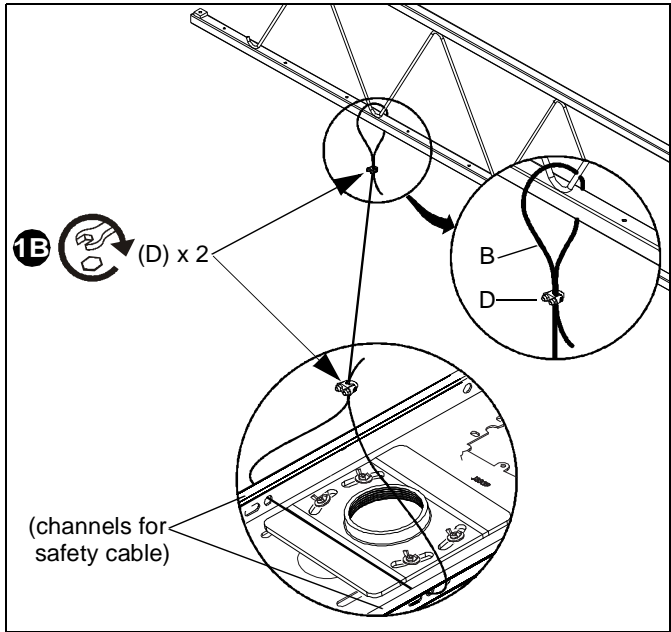
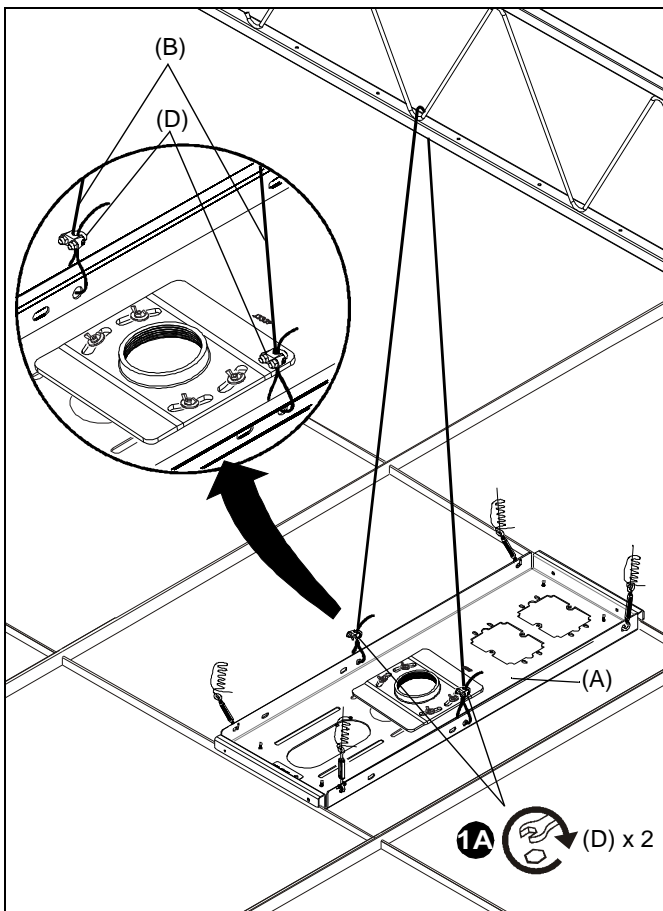

Figure 13
Figure 12
1. Attach safety cable (B) to steel truss ceiling structure at marked location.
- A. For ceiling structure less than 4' (1.2m) from ceiling tray (A) (See Figure 12):
- Attach one end of cable (B) to channel in tray (A). Secure with wire clamp (D).
- Route opposite end of cable (B) over truss, and attach to opposite channel in tray (A). Remove cable slack and secure with wire clamp (D).
- B. For ceiling structure from 4 - 7' (1.2 - 2.1m) from ceiling tray (A) (See Figure 13):
- Route one end of safety cable (B) over truss and secure to itself with wire clamp (D).
- Route opposite end of safety cable (B) through *both* channels in tray (A). Remove cable slack and secure to itself with wire clamp (D).
- C. For ceiling structure more than 7' above tray (A):
- Attach cable to tray (A) per step 1.A. or 1.B. above. (See Figure 12) and (See Figure 13)